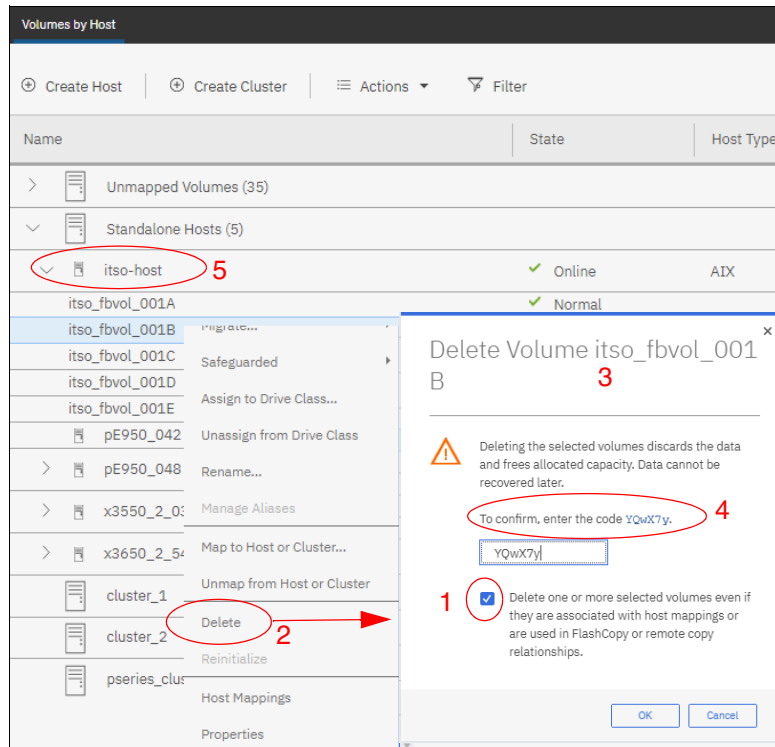

Figure 9-89 Deleting volumes
You can instruct the GUI to force the deletion of volumes that are in use by selecting the optional checkbox in the **Delete Volumes** dialog box, as shown by #1 in Figure 9-89 on page 307. This setting does *not* apply to volumes that are in a Safeguarded Copy relationship.
2. Select the volume to be deleted, and then select **Actions** → **Delete**, as shown by #2 in Figure 9-89 on page 307.